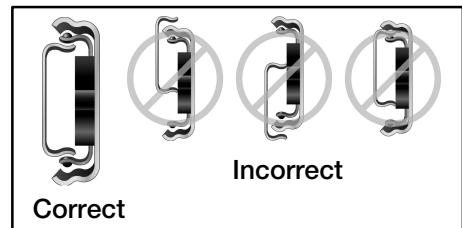

Figure 19
6. Replace the drawer by aligning it to the drawer slides. Ensure slides of pedestal and drawer are aligned correctly (see **Figure 19**).